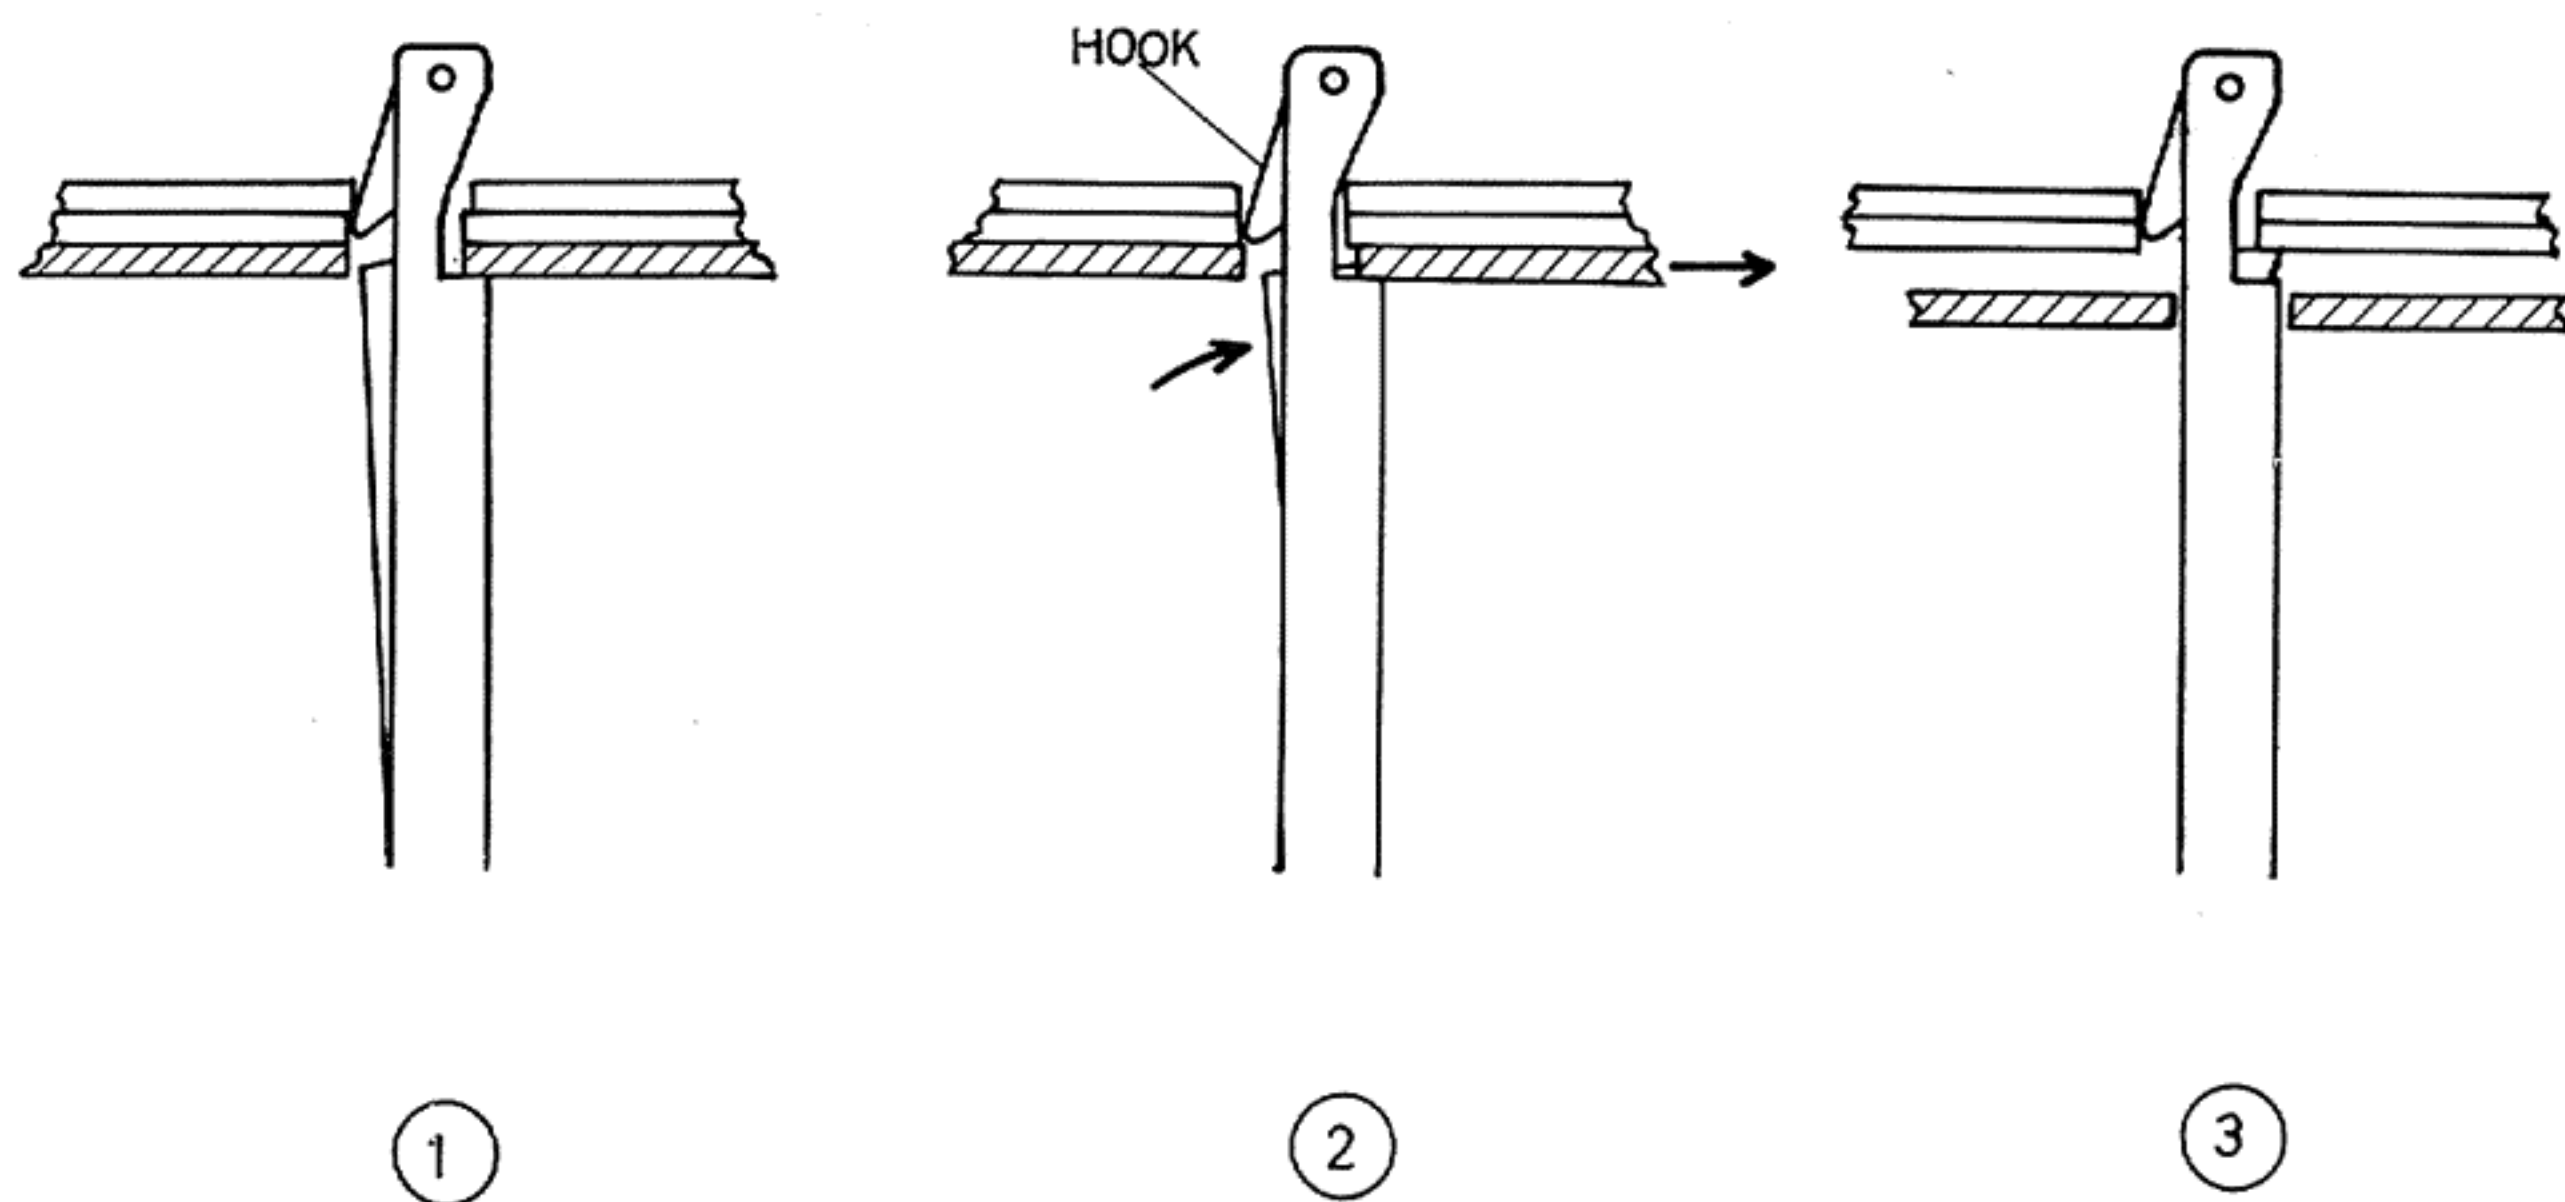

Fig. 13
- d. Refer to Fig. 13.
- ① shows the condition when records are leaded.
- ② shows the Ejector pressing the record. Note the second record is touching the Hook.
- ③ shows the record is about to drop as the Ejector completes its action of pressing.